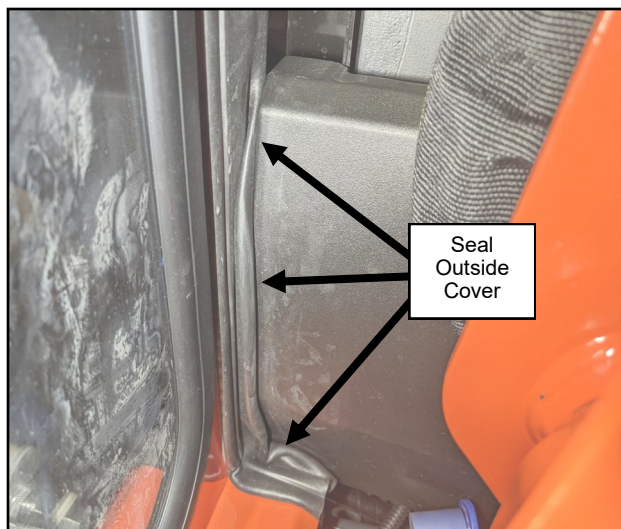

Fig. 6.5 (Right Side Of Cowl)
- 6.5 Pull the cowl seal out over the right side cover and keep it outside all the way to the front edge. See Figure 6.5.